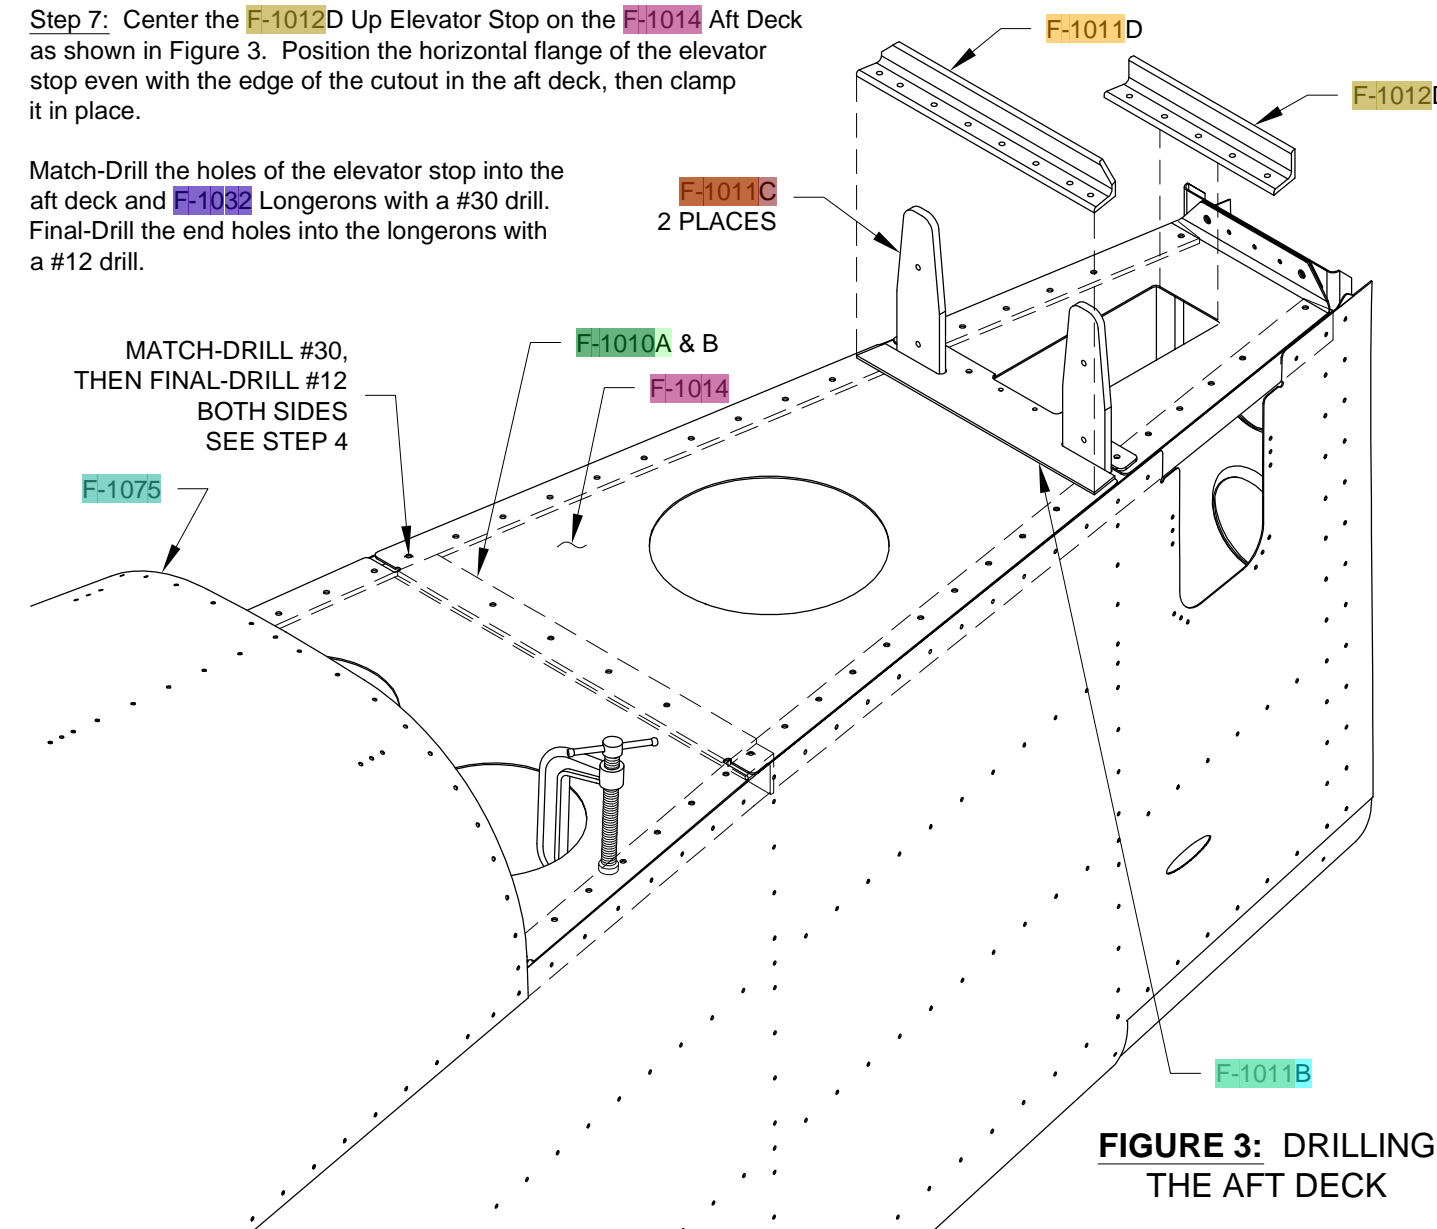

FIGURE 3: DRILLING THE AFT DECK
Step 6: Center the F-1011D Attachment Bar Support Angle on the F-1011B Stop/ Doubler as shown in Figure 3, then clamp it to the two F-1011C Attachment Bars.
Step 7: Center the F-1012D Up Elevator Stop on the F-1014 Aft Deck as shown in Figure 3. Position the horizontal flange of the elevator stop even with the edge of the cutout in the aft deck, then clamp it in place.